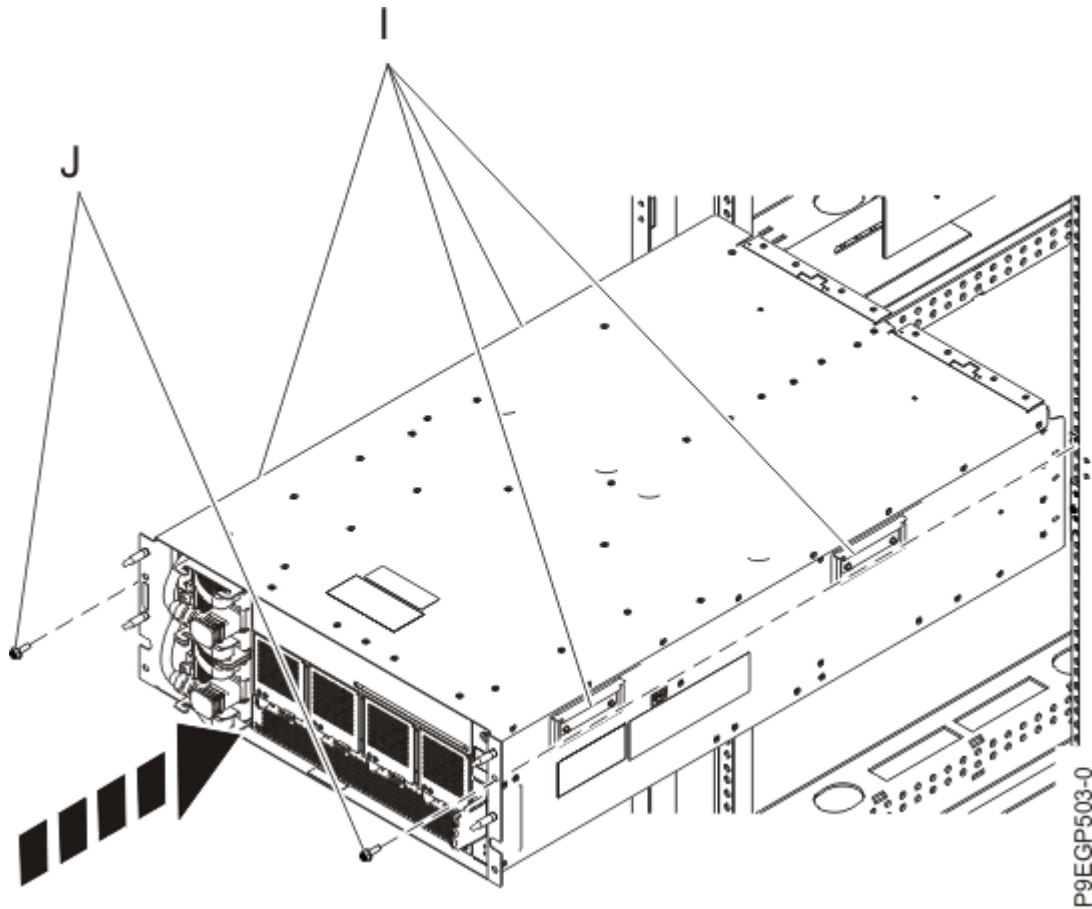

Figure 9. Installing the drawer into a rack
- a) Using three people, have two people hold onto the four handles **(I)**, as shown in Figure 9 on page 12, and one person in front of the drawer to guide the drawer. Lift the drawer and position it over the front of the rails.